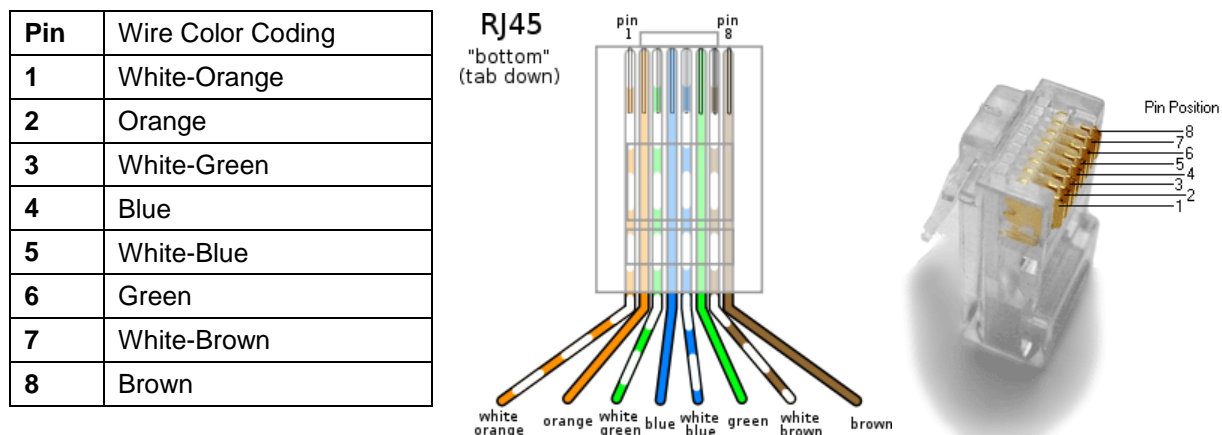

Figure 4: CAT6 cable and Type-B RJ45 wiring details
1. Two CAT6 cables run from the Computer cabinet Unit to each Code Box. Mark one Code Box and mark the other one Reader. Assemble the Computer end of these cables using RJ45 Type B modular connector plugs as shown in Figure 4.